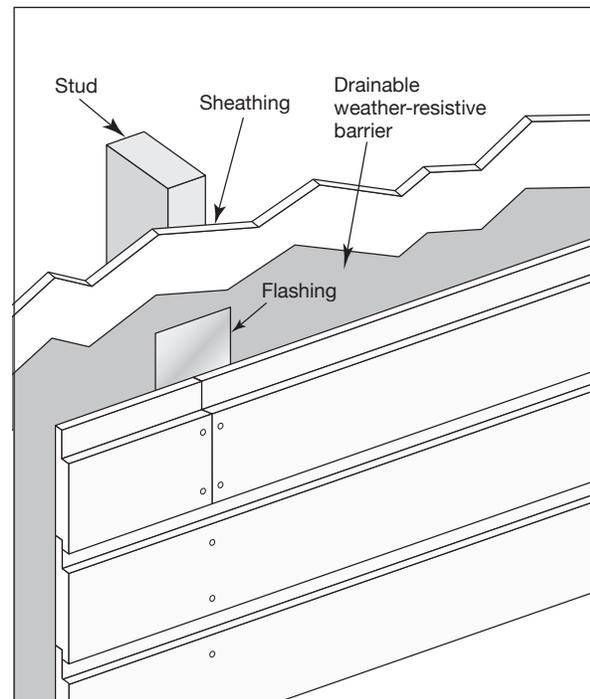

Fig. 20
- Flashing can be used behind butt joints for an additional layer of protection against water infiltration (**Fig. 20**)